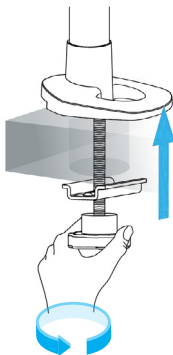

Figure 7
4. Insert the **Hand Knob** through the **Grommet Hole** and into the **Pole Base**. Turn the **Hand Knob** to **Tighten** it. (Figure 7)